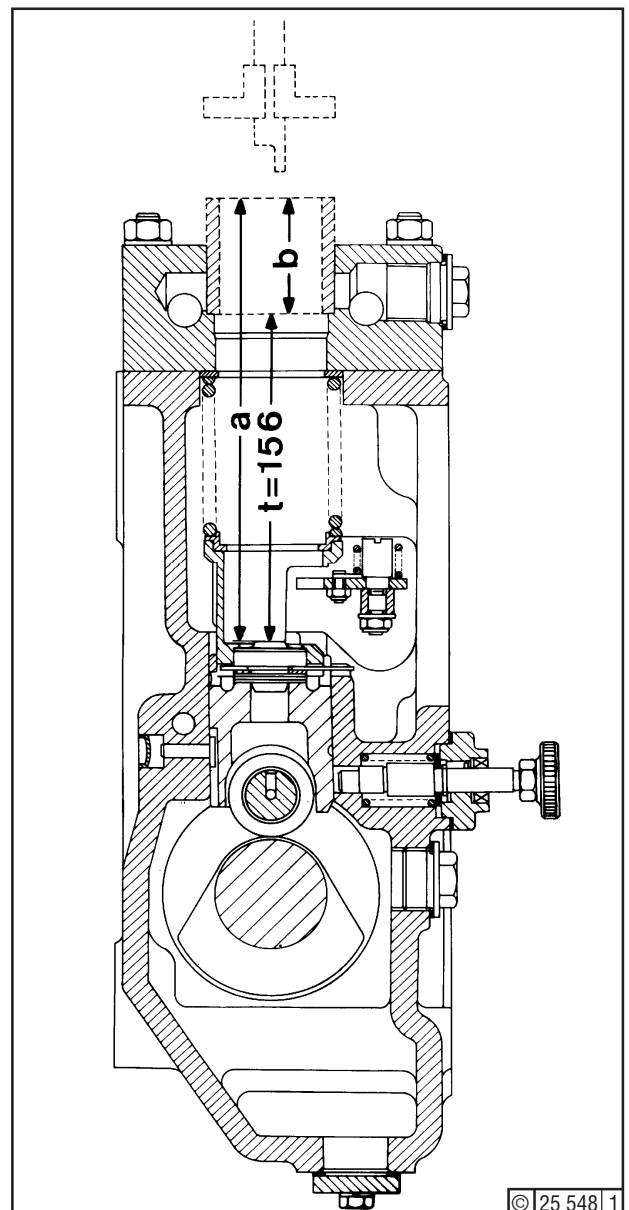

Fig. 1
Turn engine by barring gear until the relevant tappet roller rests on the cam base circle. To facilitate gauging, insert a bush (b) - Fig. 1. Using depth gauge, measure dimension (a) and calculate dimension (t).
The depth dimension (t) of 156 mm - Fig. 1 - is now obtained by means of shim plates (12) of various thicknesses.